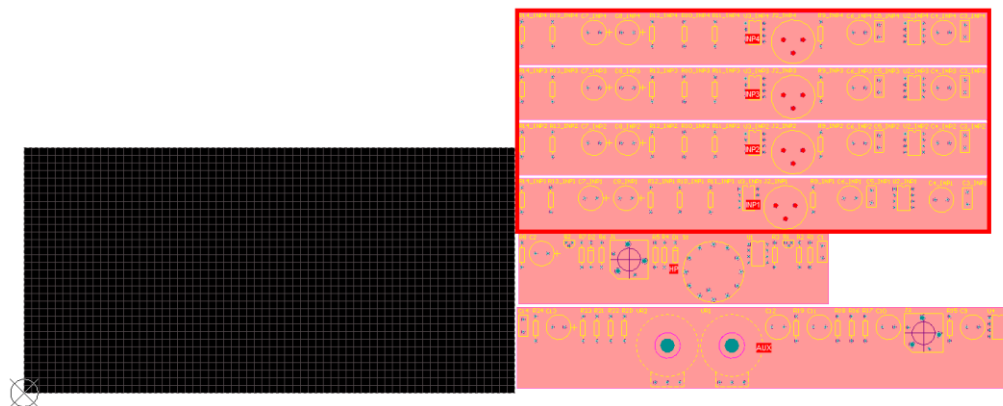

Figure 7. Multi-channel design synchronized with PCB showing 4 input channel blocks
18. You should now see 4 INP blocks appearing to the right of the board as shown in Figure 7.